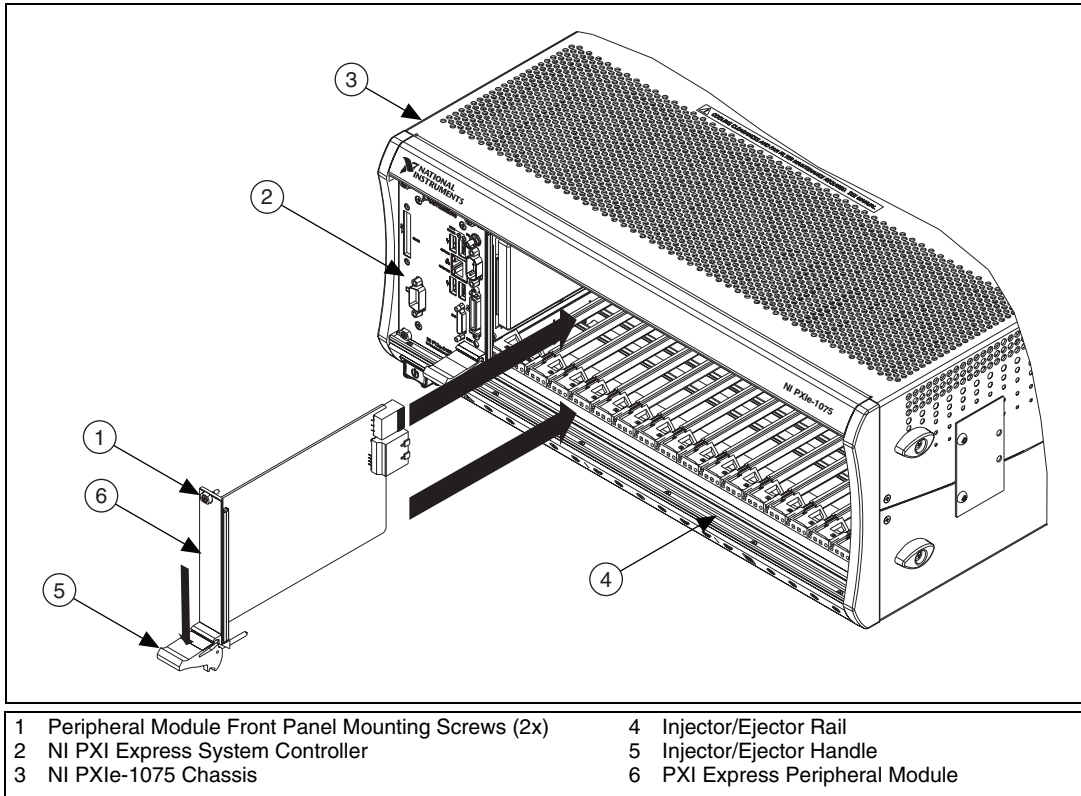

Figure 2-5. Installing PXI, PXI Express, or CompactPCI Peripheral Modules
4. Install a module into a chassis slot by first placing the module card PCB into the front of the card guides (top and bottom), as shown in Figure 2-5. Slide the module to the rear of the chassis, making sure that the injector/ejector handle is pushed down as shown in Figure 2-5.